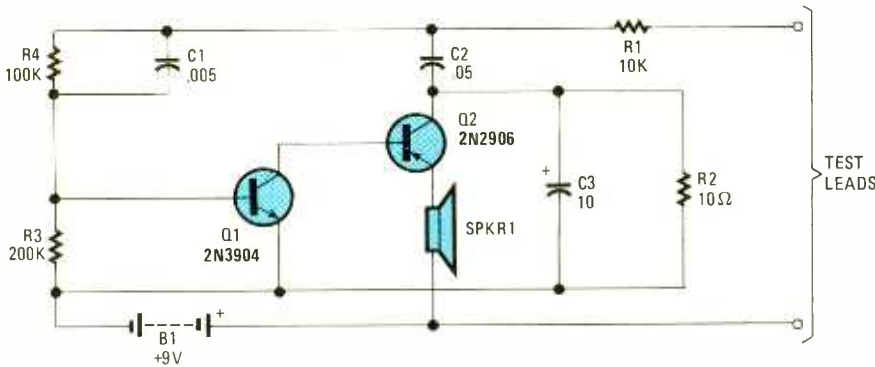

Fig. 8. The Junkbox Continuity Tester always seems to work, regardless of what parts are used!
**Junkbox Continuity Tester.** This little continuity tester (see Fig. 8) always seems to work, regardless of what parts are used! I've literally built dozens of them as gifts for friends, and as yet, haven't had one fail.